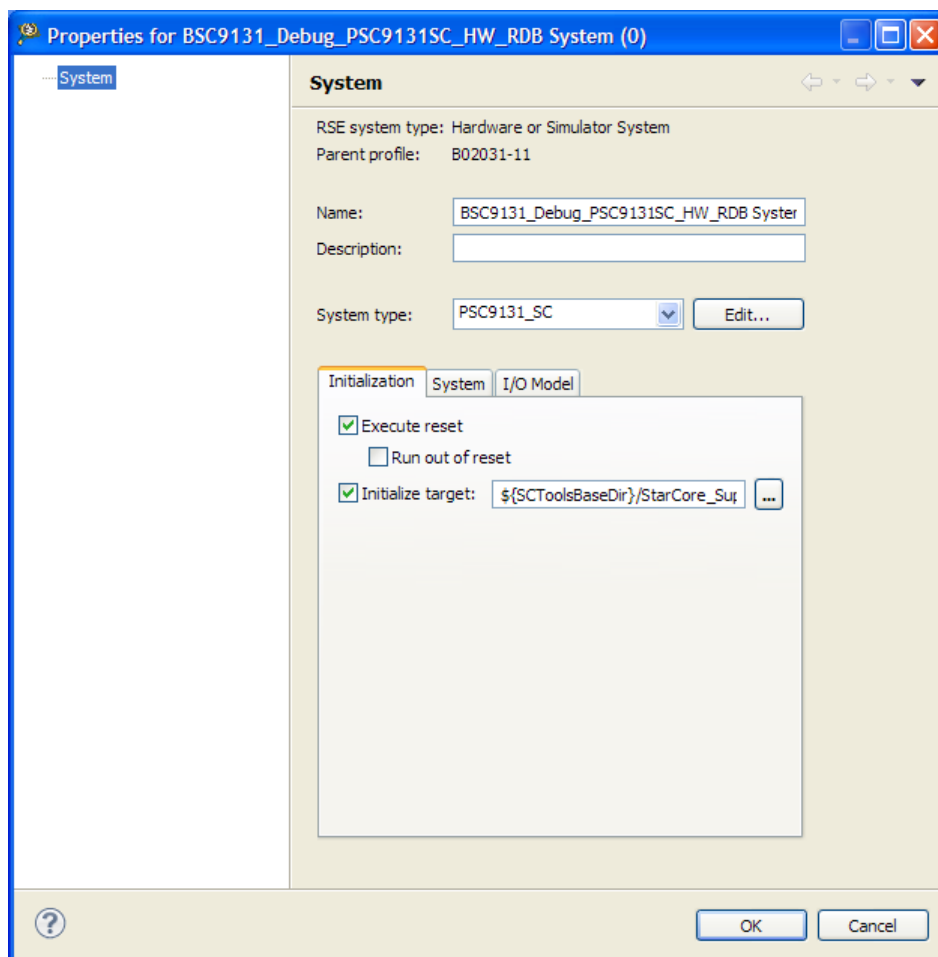

Figure 16. System properties window for the BSC9131 debug configuration
Confirm that the project has the string “SC” as part of the name. If it does not, the debugger will not configure the board JTAG chain properly for a two-TAP scheme. This can be corrected in the debugger settings, by using the **System Type** menu in Figure 16 to select the correct configuration.
The **Properties for BSC9131\_Debug\_PSC9131SC\_HW\_RDB System (0)** window appears (Figure 16).